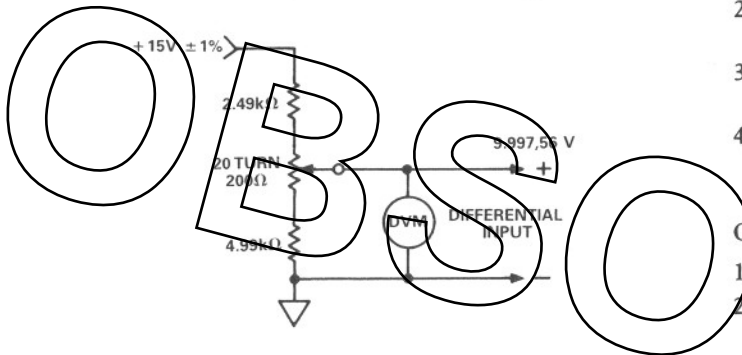

Figure 5. Input Connection for the  $R_{SPAN}$  Calibration
1. Apply a precise 10V–2.44mV across the input of the AD368/AD369. A voltage divider as shown in Figure 5 can be employed; in conjunction with a precision voltmeter to verify an input of 9.997,56V.